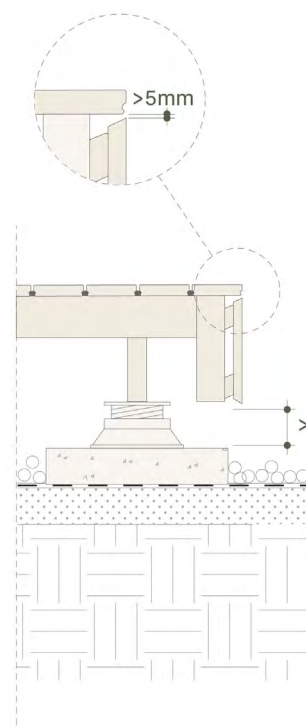

Fig. 3
- For vertical side graphics use any boards installed with gaps, just ensure additional structural support for vertical elements (see Fig. 3)